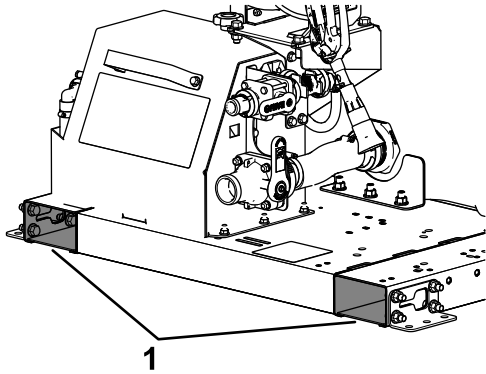

Figure 3
2. Using the forklift pockets (Figure 3), lift the machine onto the vehicle bed.